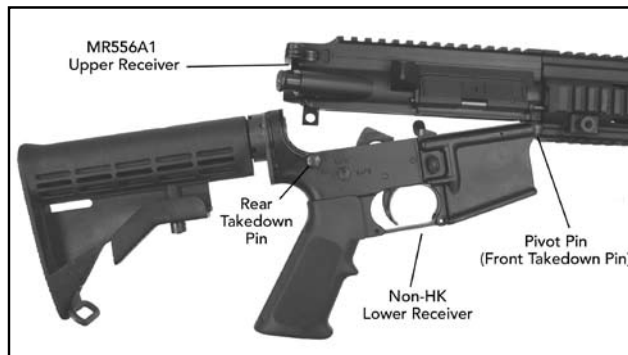

Fig. 6 – Installing Front Takedown Pin
3) Mount the lower receiver to the upper receiver. Using finger pressure, press the front pivot pin from right to left so it captures and secures the upper receiver (Fig. 6).